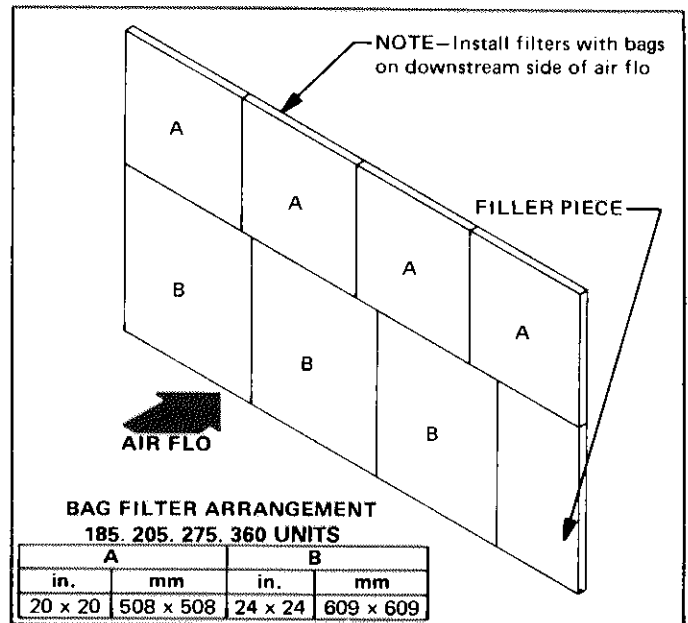
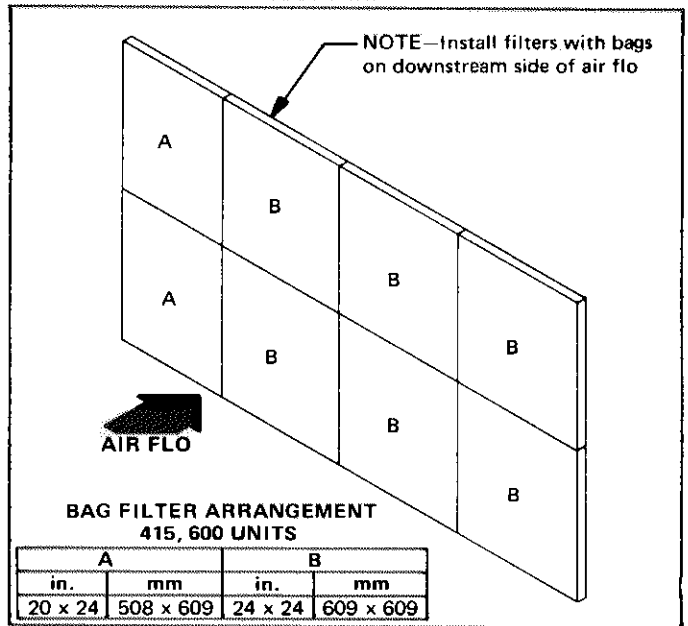

FIGURE 128
FIGURE 129
- e - Replace filter bag assemblies in unit. See Figure 128 (185, 275, 300, 360) or Figure 129 (415, 600) for arrangement.